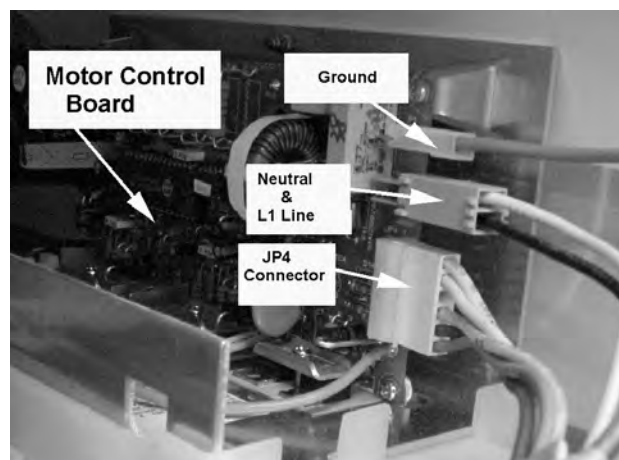

Figure 4-6
2. Remove the front panel and pull the JP4 Connector from the motor control board. (*Figure 4-6*)